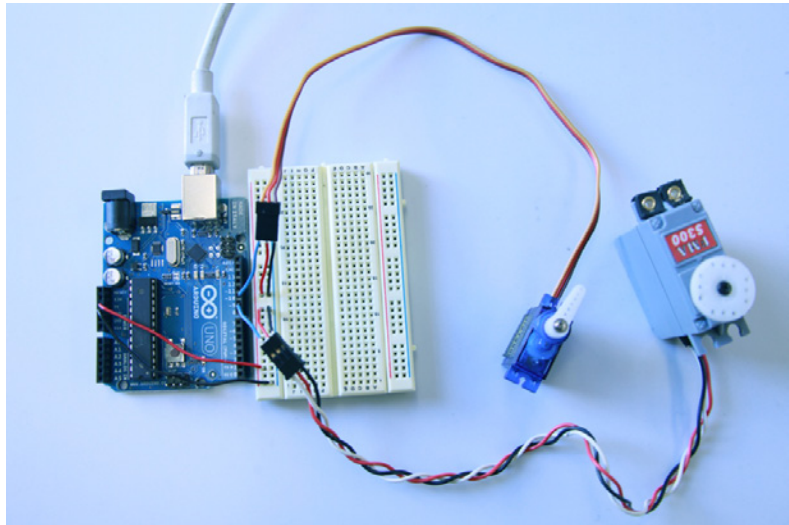

Figure 6-7. The Arduino connected to two servos.
With this in mind, let's plug in our servos. You'll need your Arduino, your servos, a breadboard, some solid core wire, and a good pair of wire strippers. Figure 6-7 shows the setup we'll be building. Follow these steps to recreate it yourself:
- Connect the red, black, and control wires to each of the holes in the servos' headers. Make sure to match the red wire to the hole corresponding to the servo's red wire, the black wire to the servo's black wire, etc. (Refer to Figure 6-7 if you need clarification.)
With your Arduino plugged in and both servos connected, run this sketch and try typing different combinations of `a`, `s`, and `d`, slowly one at a time. You should notice that each servo is turning to a different position when you type a letter, alternating back and forth between the two. If you send the one servo the same letter twice in a row, you won't see it move at all: the servo knows that it's already at exactly the position to which you're trying to send it. If your servos aren't moving, double-check your circuit against Figure 6-7 to make sure you've got all your connections correct.